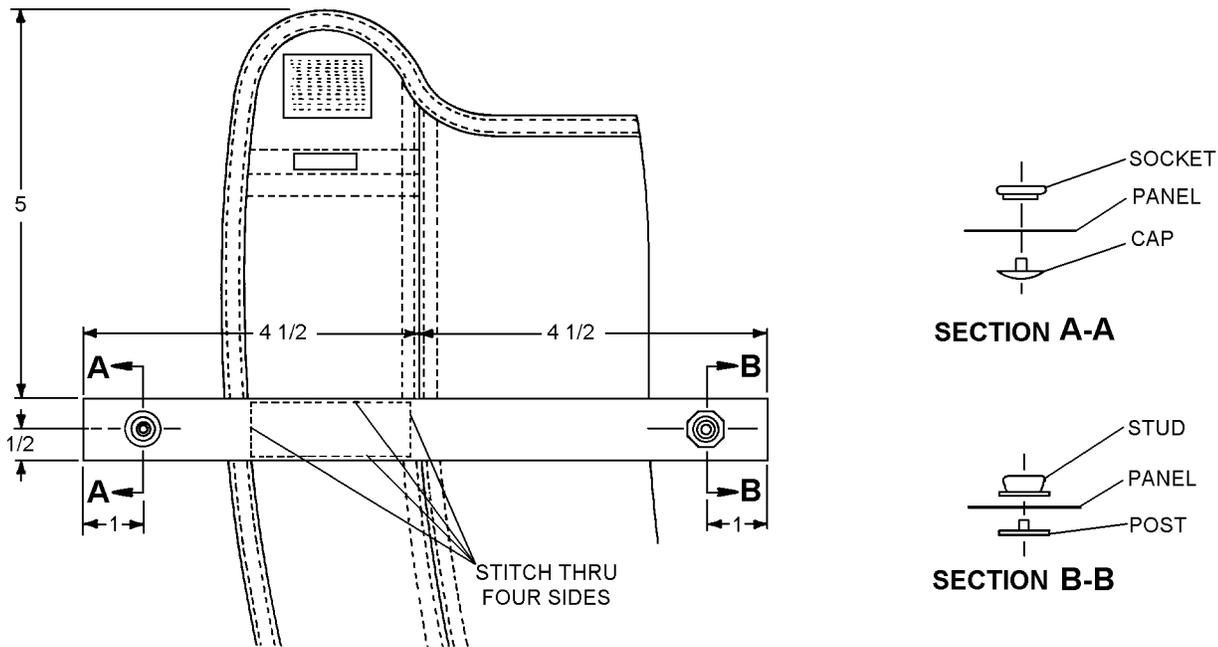

Figure 26-9. Addition of Webbing Loops
2. Sew one piece of webbing to outer side of each collar lobe casing in accordance with dimensions shown in figure 26-9.
3. Position and install snap fasteners in accordance with dimensions shown in figure 26-9, and ensure proper mate.